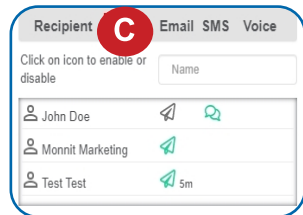

Figure 31
- C. Recipient list identifies who will receive the notification. See Figure 31.